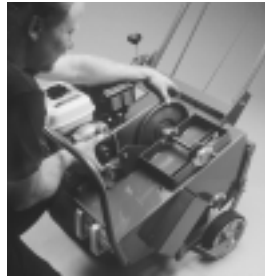

Figure 13
5. Install new belt over small V-pulley first, then over the large V-pulley. (see Figure 13).